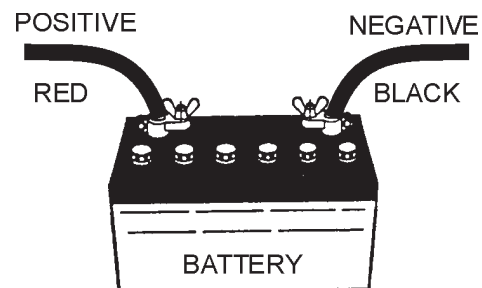

Figure 14. Battery Connections
**ALWAYS** be sure the battery cables (Figure 14) are properly connected to the battery terminals as shown below. The **Red Cable** is connected to the positive terminal of the battery, and the **Black Cable** is connected to the negative terminal of the battery.